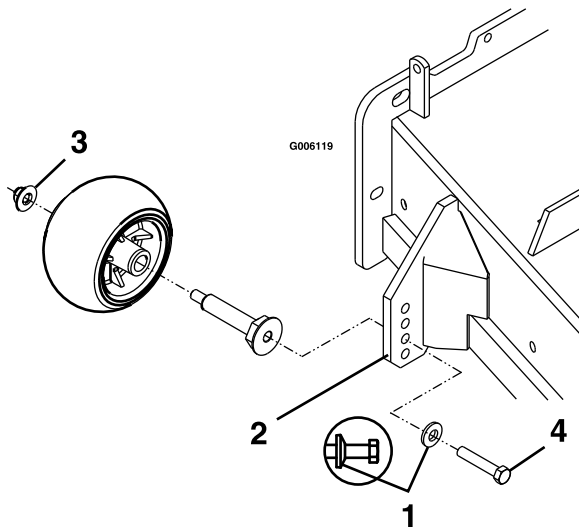

Figure 12
- Torque the 3/8–24 x 2 Gr 8 hex capscrew to 50–55 ft-lb (68–75 N-m) (Figure 12).
- If the 3/8 nyloc nut has been removed, re-install and torque to 30–35 ft-lb (41–47 N-m) (Figure 12).